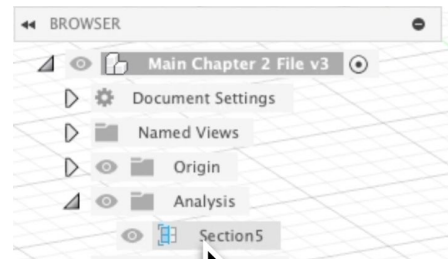

Figure 1.8
- '**Section Analyses**' appear in the browser tree under the '**Analysis**' folder (see Figure 1.8).